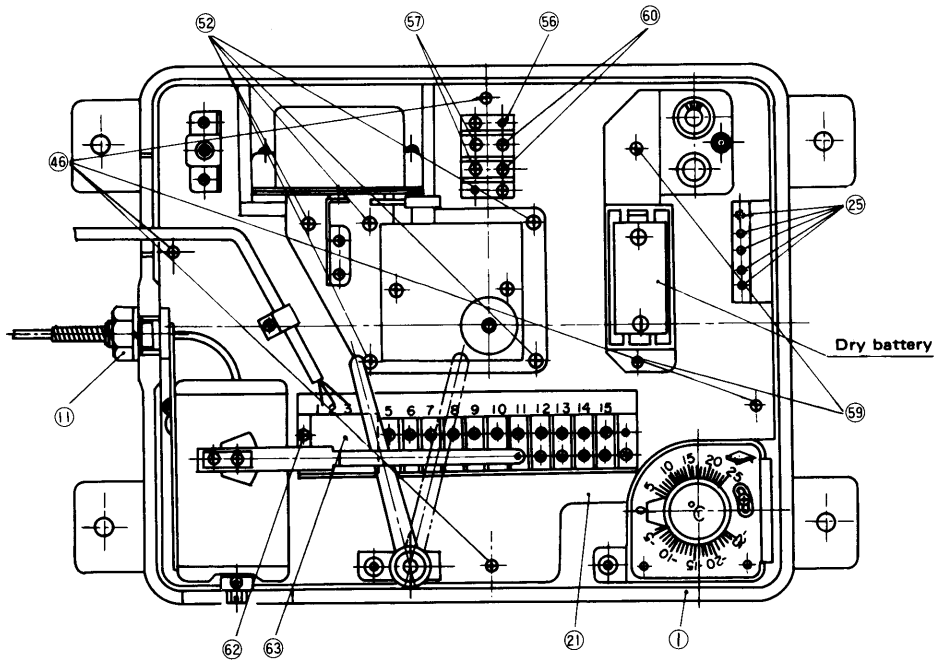

Fig. 3 Internal structure
- (1) Remove the recording plate from the body (1) (See Article 2.2.1) When it is removed, it looks as shown in Fig. 3. In this state, sensor, timer, remaining voltage indicator and batter and dry battery are replaced.
(1) Replacing standards
- In case the pilot lamps for functioning temperature (25) remain unlit although the power source is turned on.
- Remove the recording board, (state shown in Fig. 3). Loosen the screws (62) to remove protection board for impressed voltage (63) loosen terminal screws (Nos. 1 to 3) on the terminal strip (21) and remove the wiring. Then, measure temperature of the feeler part and resistance of the sensor and compare them with the characteristics of temperature resistance shown in Fig. 10, and if they do not accord with them, replace the sensor. If they accord, the main base plate or the volume setter is out of order. So replace it in accordance with Articles 4.2.1 and 4.2.2.
(2) Replacing method
- Since numbers (1, 2, 3. . .) are described on the sensor lead wires, so connect them to the terminals having the same number on the terminal strip (21).
- Replace the recording board, and insert a battery so as not make a mistake in polarity as in the state of Fig. 3 (Fig. 3 shows polarity of a battery). It is advisable to use a battery similar to SUM-2 of JIS C8501 and R14 of IEC. (Dry battery DC1.5V)
- Remove the recording board (state shown in Fig. 3). Loosen two screw bolts (59) and two screw bolts (60), and the remaining voltage indicator battery can be removed from the indicator body. So replace it with a new battery.
- When replacing, connect the wires to the terminal strip (56) in a way red wire to red and black wire to black.
- Remove the recording board (state shown in Fig. 3). Loosen two screw bolts (57) from the terminal strip (56) to remove the wires. Then remove five screw bolts (58) to replace the timer with a new one.
- When replacing the timer, replace the attached vibration protective rubbers (5 pcs) at the same time. The red wires are for + current and the black wires – current. Connect the wires to the terminal strip (56) in a way that red wires are connected to red and the black wires to black. Tightening torque for vibration rubber is 4 ~ 5 kg-cm.